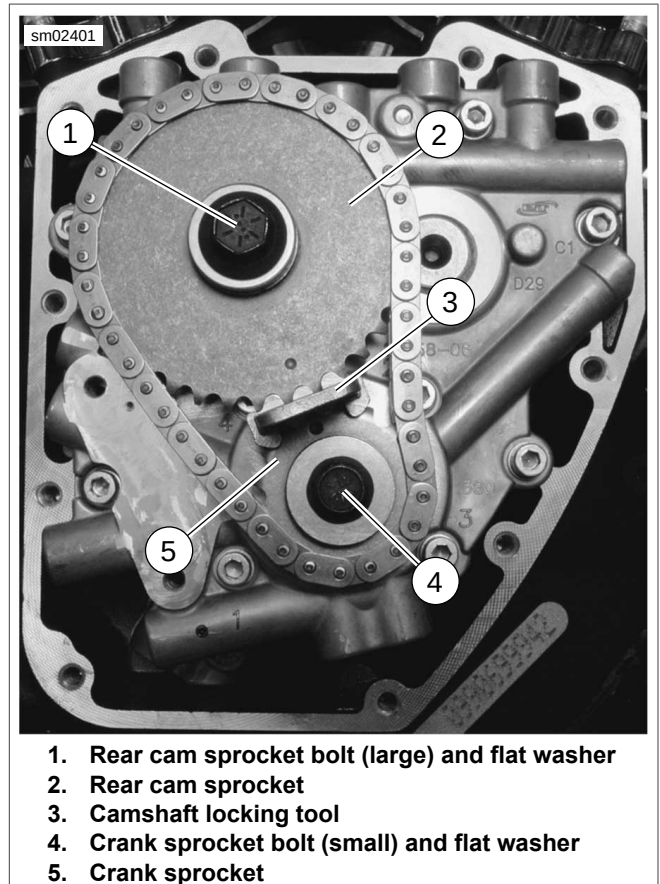

Figure 3-92. Cam Support Plate Assembly
3. See Figure 3-92. Install CRANKSHAFT/CAMSHAFT SPROCKET LOCKING TOOL (Part No. HD-47941) between cam sprocket (2) and crank sprocket (5).